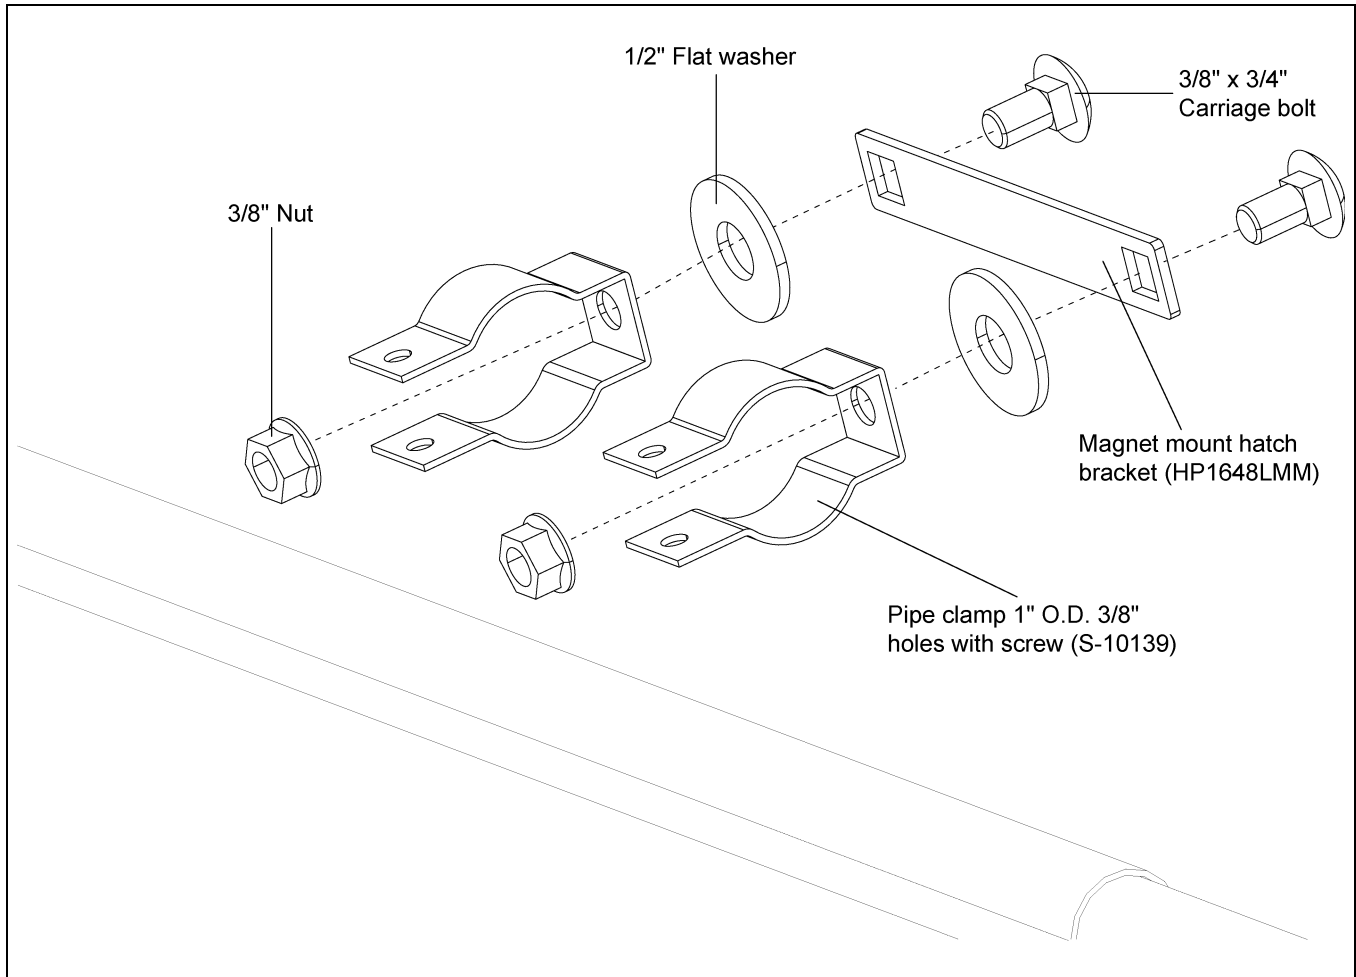

Figure 11E
7. Assemble pipe clamps (S-10139) to the magnet mount hatch bracket (HP1648LMM). Insert 3/8" x 3/4" carriage bolts through the magnet mount hatch bracket, 1/2" flat washer and pipe clamp. Fasten with 3/8" nut. *(See Figure 11E.)*